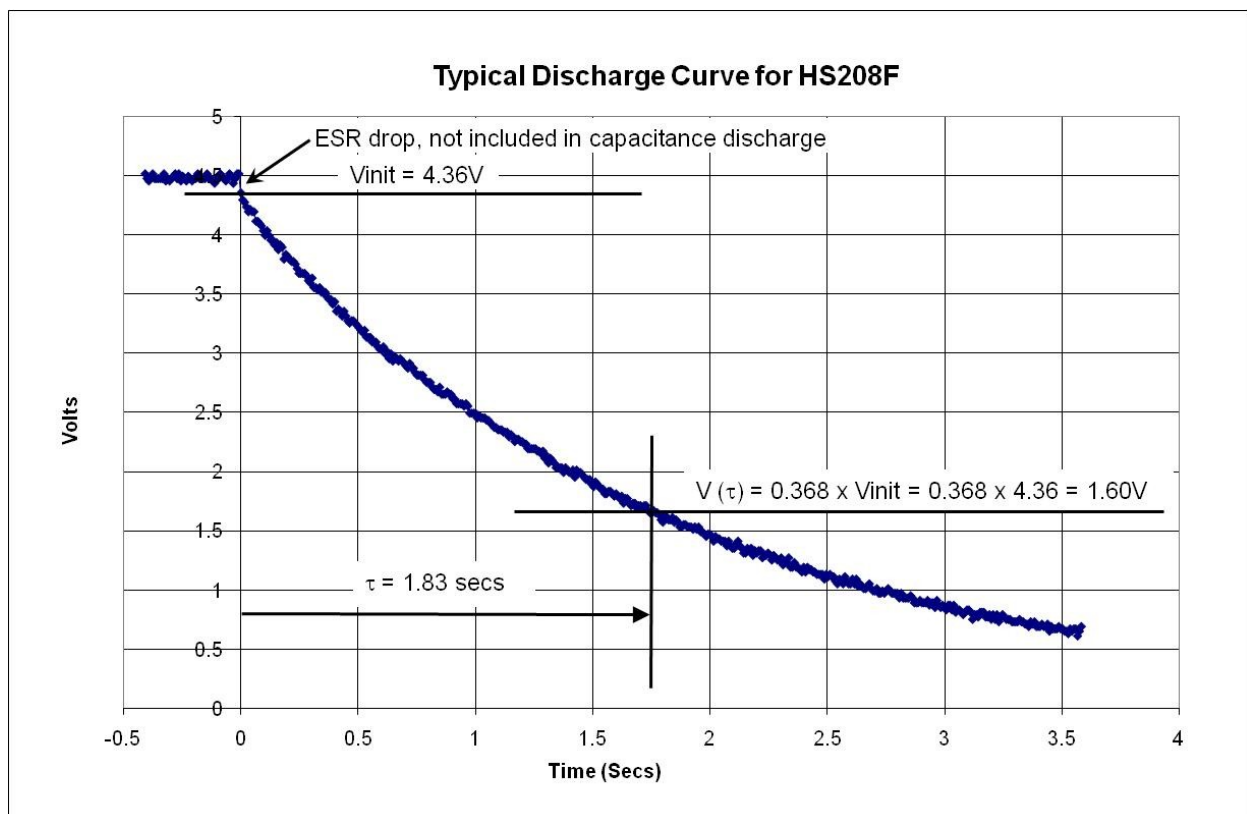

Fig 3: Discharge for Capacitance Measurement
Refer to the waveform in Fig 3 for the steps 8 – 11.
8. For measuring capacitance, initial voltage, $V_{INIT} = V_{RATED} - \Delta V_{ESR}$. Use the cursor on the oscilloscope to determine this value. In Fig 3, this is 4.36V.
9. After one time constant, the capacitor voltage would be, $V(\tau) = V_{INIT} \times 0.368$ Volts. In the example of Fig 3, this = 4.36V x 0.368 = 1.60V.
10. Using the cursors, find the time (τ) at which the capacitor voltage = $V(\tau)$. In the example of Fig 3 this = 1.83 secs.